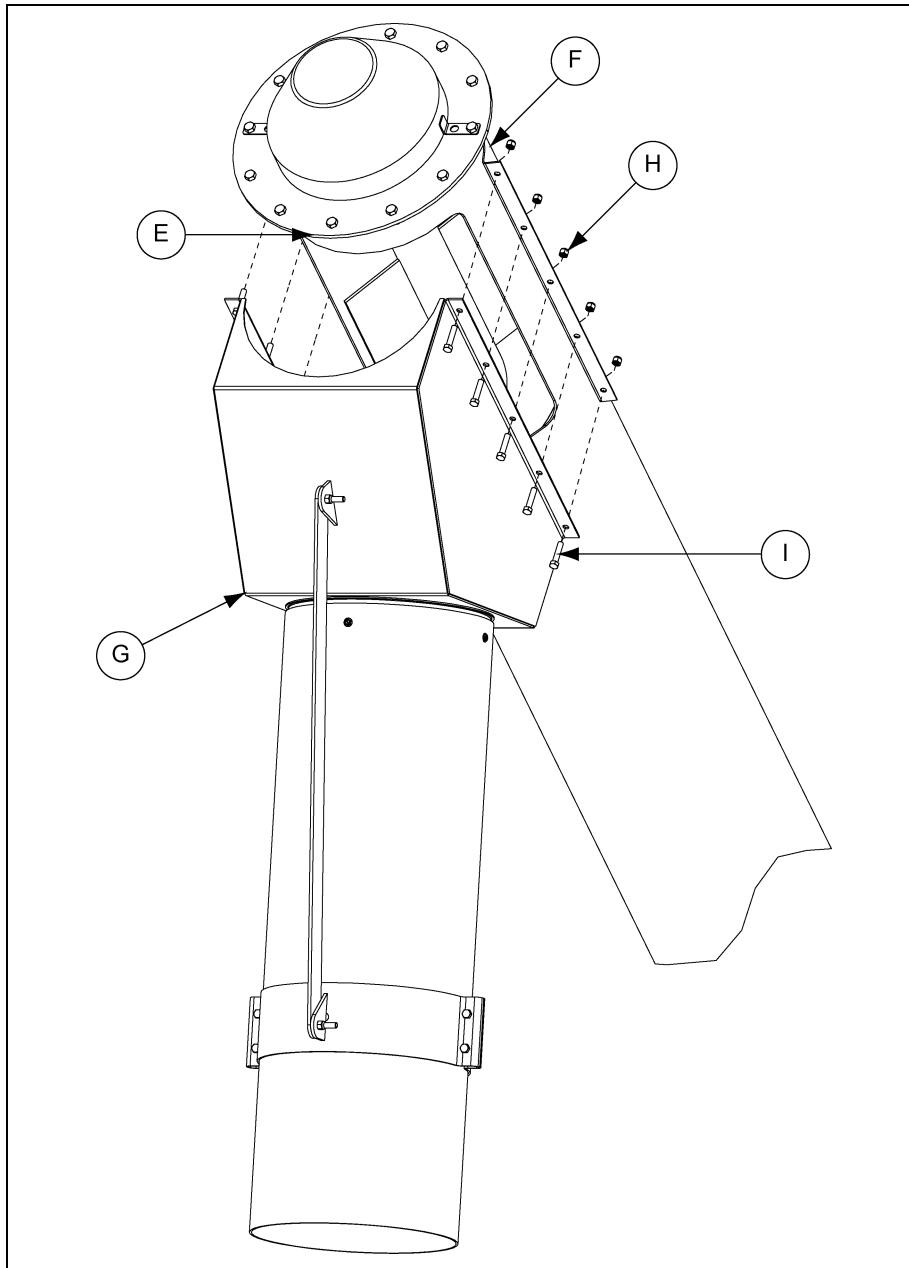

Figure 3B
B. Attach the 60° spout (G) over the discharge opening (E) on the vertical tube. Secure the half band (F) and spout (G) with 5/16" x 1-1/2" hex bolts (I) and nylock nuts (H). (See Figure 3B.)